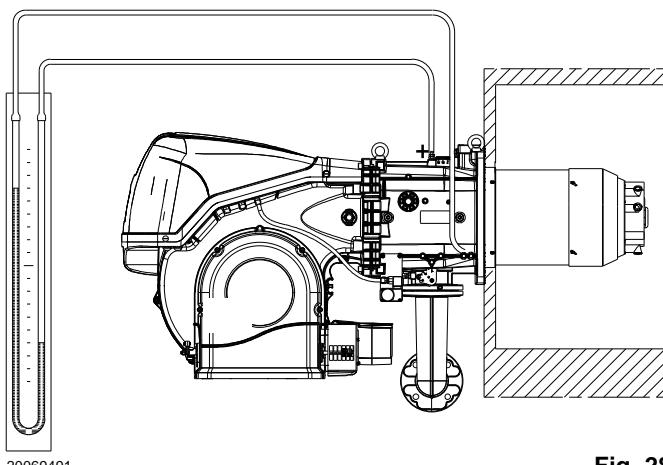

Fig. 28
- Fit a U-type pressure gauge or a differential pressure gauge (Fig. 28), with socket (+) on the gas pressure of the pipe coupling and (-) in the combustion chamber. The manometer readings are used to calculate MAX burner output using the Tab. L.